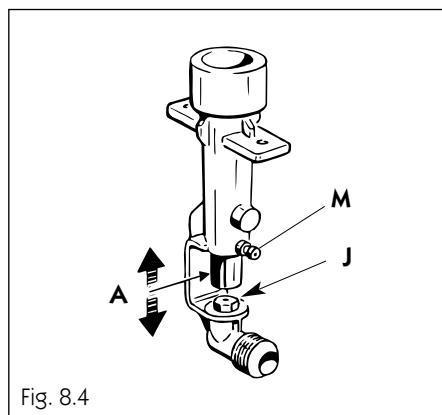

Fig. 8.4
- Fully raise the adjusting air tube A (fig. 8.4) in order to easily reach the injector.